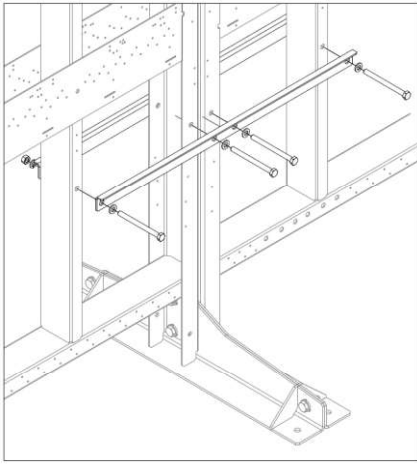

Figure 12
- 4 from the lower stiffener members. Refer to **Figure 12.**